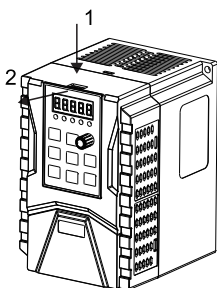

Figure3-4 Keyboard's disassembly
A. Keyboard's disassembly, showing as Figure3-4, firstly press keyboard's elastic buckle by direction 1. Then lift up the keyboard by direction 2.